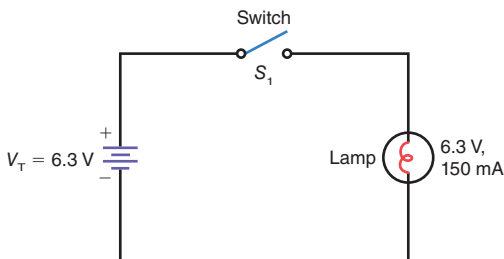

Figure 9-25
- 9.9 With the switch, S_1 , closed in Fig. 9-25,
- 9.10 With the switch, S_1 , open in Fig. 9-25,